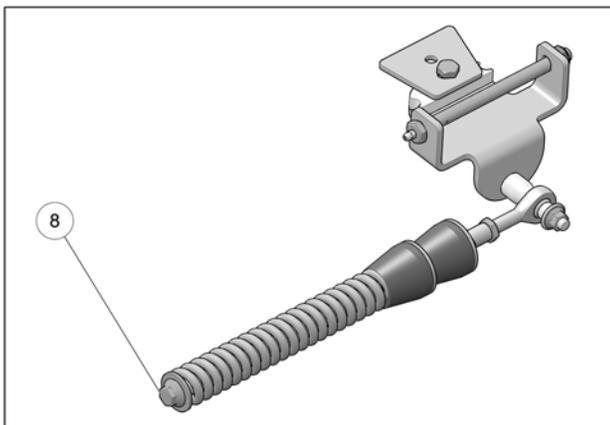

Fig. 10
- Verify that spring assembly bolt (8) is tightened to the recommended torque specification: 75 N•m [55 lb•ft]. Refer to Fig. 10